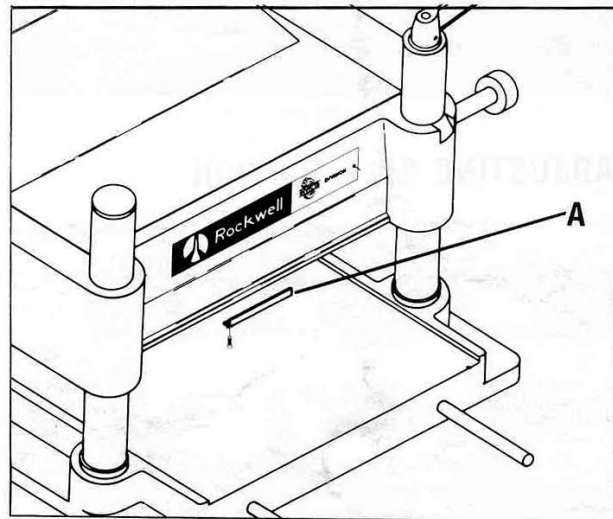

Fig. 41
The maximum depth of cut on full width planing with a 2 Horsepower, Single Phase motor is 1/8" (3.175 mm). A limiter (A) Fig. 41, is provided on single phase machines to limit the depth of cut on full width planing from 3/16" to 1/8".